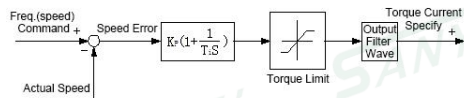

Fig. F4-1 Speed Regulator
1. Speed regulator(ASR)has structure as showed in figure F4-1. KP is proportional gain P, TI is integral time I.